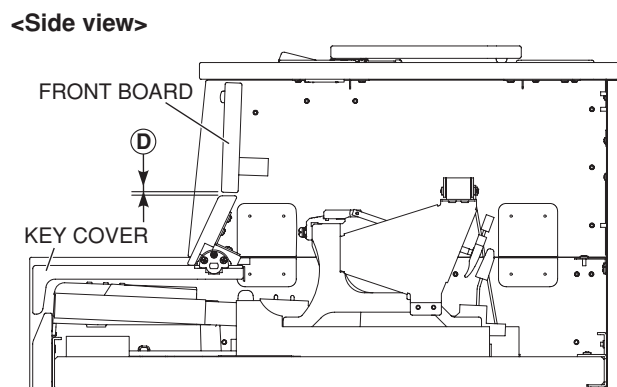

Fig. 6
Standard 1 Make sure the front board and key cover do not touch when closing the key cover. (Fig. 6)
Standard 2 Make sure that with the key cover closed the clearance between the front board and the key cover is not too wide and the difference between the left and right side is not too large. (Fig. 6)
3.2 mm $\pm$ 3 mm, difference on the left and right within 2 mm (Fig. 6)
(11) Remove parts